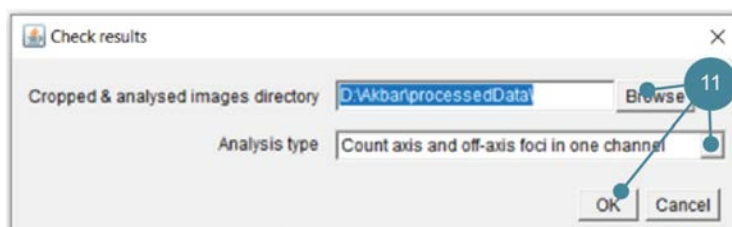

Figure 7.21. The check results menu
**STEP 14.** To control the analysis accuracy, when the option to save ROIs was chosen, utilize the "Start checking results" feature located in the main meiosis bar. This action will prompt the appearance of the "Check results" window (refer to figure 7.21). If you have recently executed the macro, the default folder and method are suitable. However, if you wish to review and monitor the macro's results later on, you should specify both the folder and the "Count axis/off-axis foci in two channels and colocalize" method.